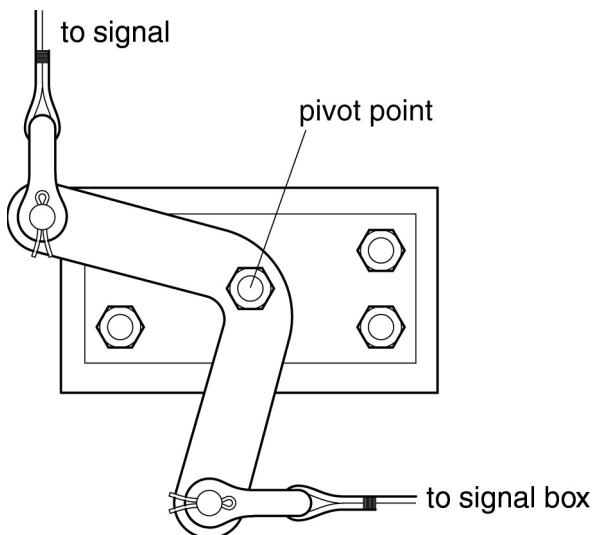

Fig. 4
- (ii) A bell crank lever from a railway signal is shown in Fig. 4.
Give **two** important features of the bell crank lever in Fig. 4.